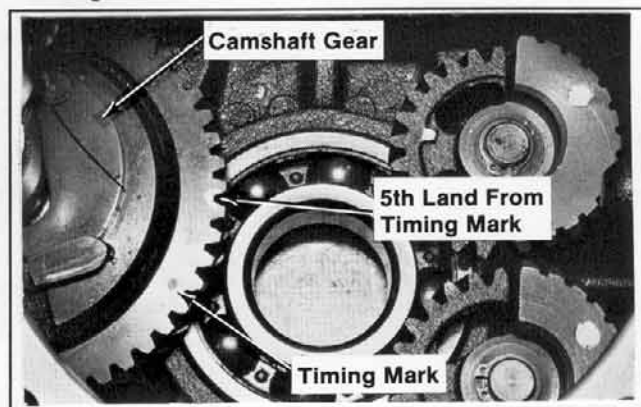

Figure 2. Marking Land On Camshaft Gear.
**Camshaft** - Locate the timing mark on camshaft. Starting with the land next to the timing mark, count **five (5)** lands in a **counterclockwise** direction. Mark the fifth land. Refer to Figure 2.